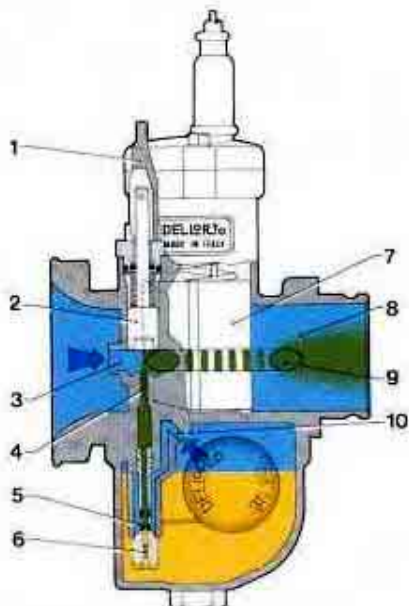

fig. 15
It is called independent because the starting device operates with its own circuit including a starter jet, emulsion tube and a starter valve (**fig. 15**).
Figure 15 shows the mixture strength delivered through the emulsion tube depends on the size of the starter jet (6) and on the size of the air duct (10).